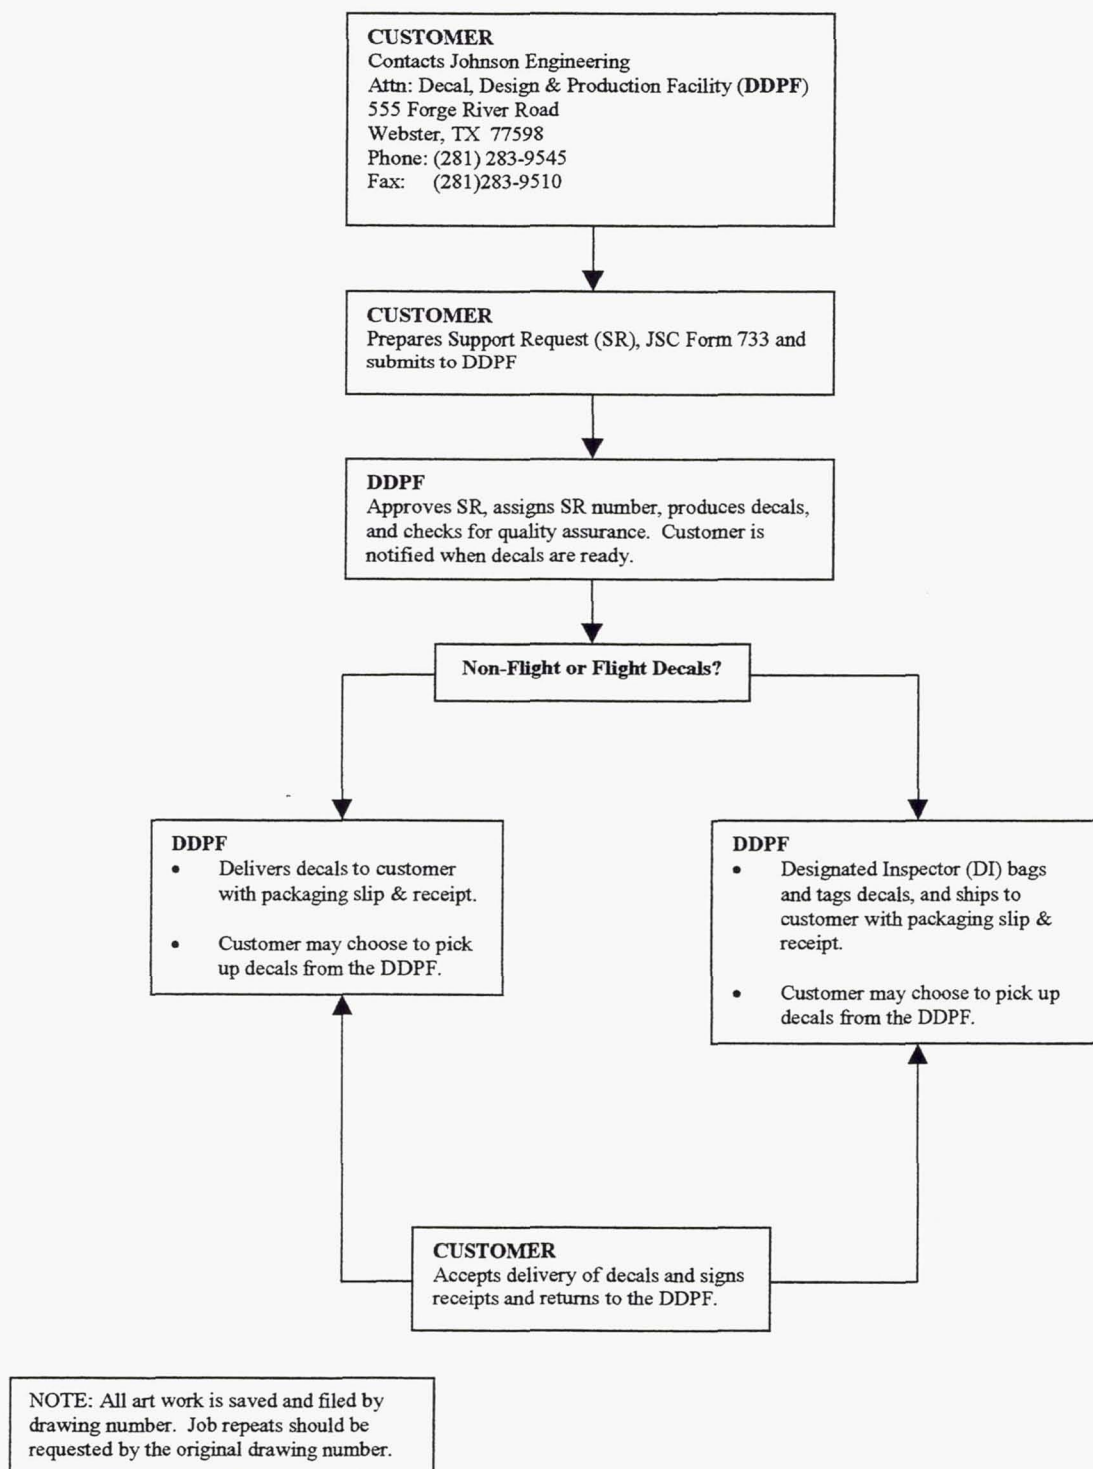

Figure 2-1 Initiating Services for Decal Production
2.1 Figure 2-1 below depicts how customers can initiate production of decals and placards.